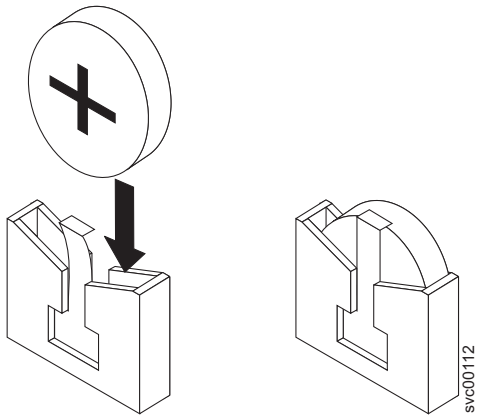

Figure 149. CMOS battery socket
- c. Slide the battery down until it snaps into place, as shown in Figure 149.